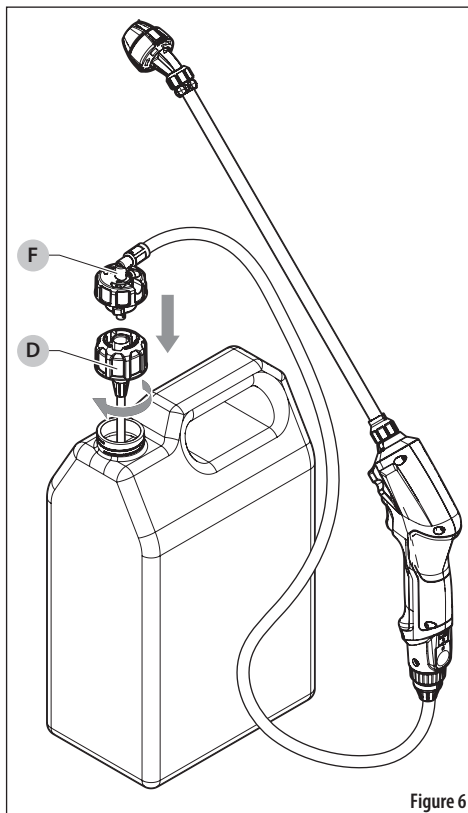

Figure 6
The power wand sprayer can be alternatively used with any bottle with a 38 mm opening using the included RTU (Ready-To-Use) cap (D). See Figure 6.